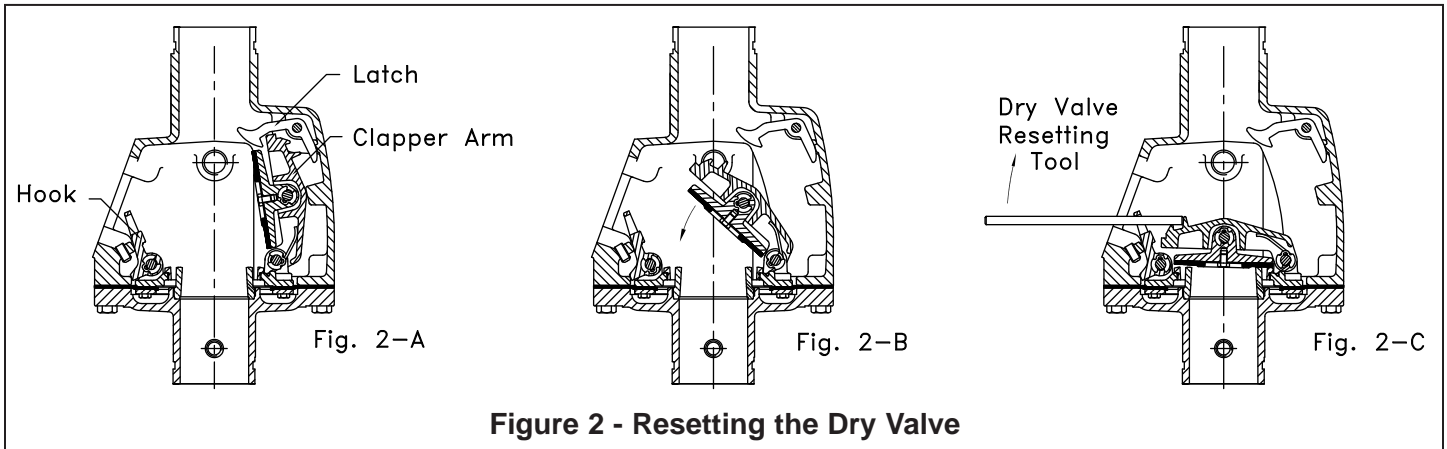

Figure 2 - Resetting the Dry Valve
- The Model F-2 Dry Valve must be installed in the vertical position as shown in Figure 2.
(Refer to Figure 2.)
8. To set the dry valve clapper (Refer to figures 2 & 3)
- a. Raise the latch (2) to release spring loaded clapper arm assembly (8) from the latched open position.
- b. Move the clapper arm assembly (8) down toward the horizontal position (see Figure 2-B).
- c. While holding spring loaded clapper arm assembly (8) down, insert the re-setting tool through the hole in hook assembly (15), across the fulcrum cast on top of clapper arm assembly (8) until the re-setting tool contacts the stopping boss as shown in Figure 2-C.
- d. Apply a sharp upward force at the end of the re-setting tool. Hook (15) will slide forward on the re-setting bar and latch the clapper closed with a positive setting action (see Figure 2-C).
5. OPERATION (Refer to Figure 2)
The clapper (5) and air plate (11) assemblies combine to form a floating member assembly. With the clapper assembly (5) latched closed, system air pressure forces the member assembly down, sealing the water seat (16) from the intermediate chamber. When a sprinkler operates, the system air pressure is reduced. When system air pressure is reduced to the differential tripping point of the valve, water supply pressure in the inlet chamber lifts the member assembly off the water seat (16) and flows into the intermediate chamber. As the member assembly continues to rise, the latching hook (15) is forced against operating pin (23), which causes the hook (15) to pivot on hook rod (6b) and unlatch the clapper. The clapper is spring loaded and swings to a full-open locked position (See Figure 2-A).